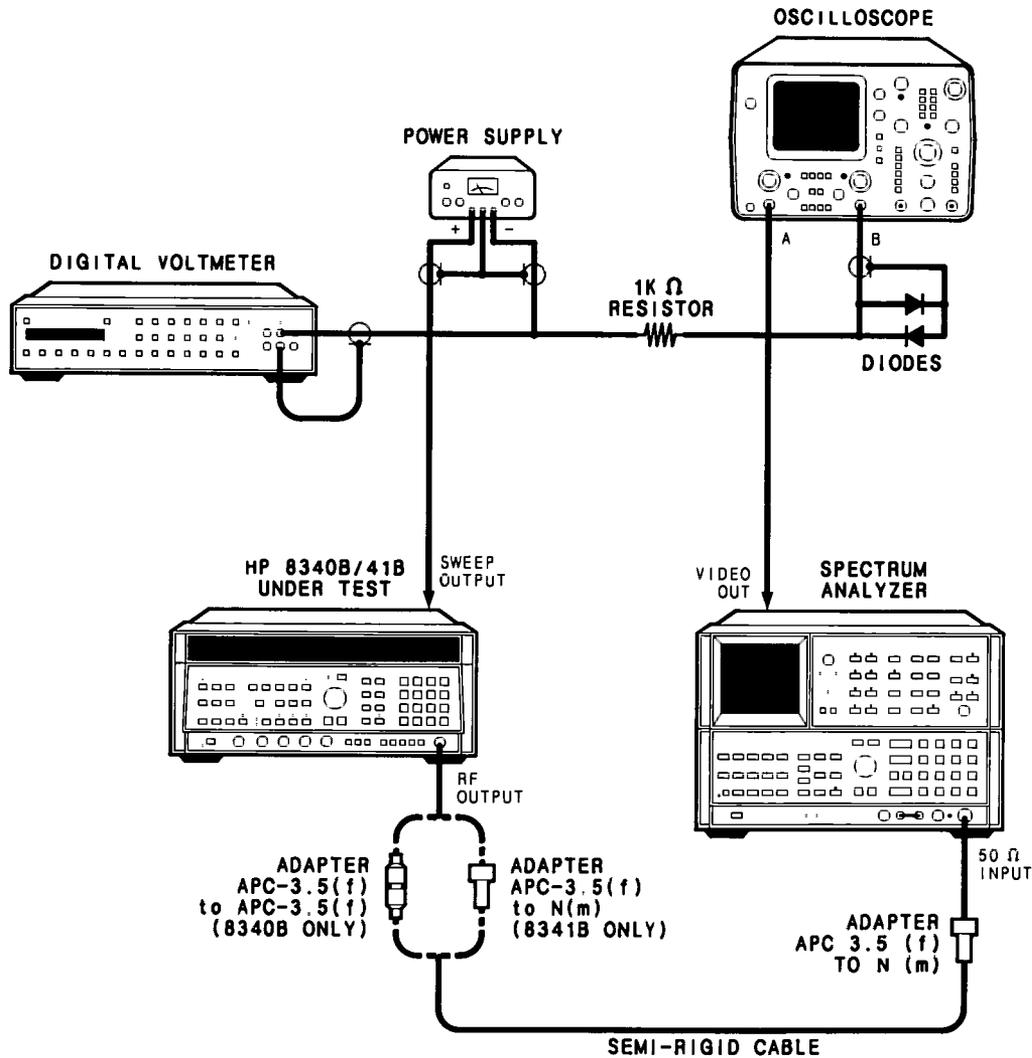

Figure 4-4. Swept Frequency Accuracy Test Setup
- 1 Connect the equipment as shown in Figure 4-4 (with the power supply output set to 0 Vdc). Allow the equipment to warm up for one hour.